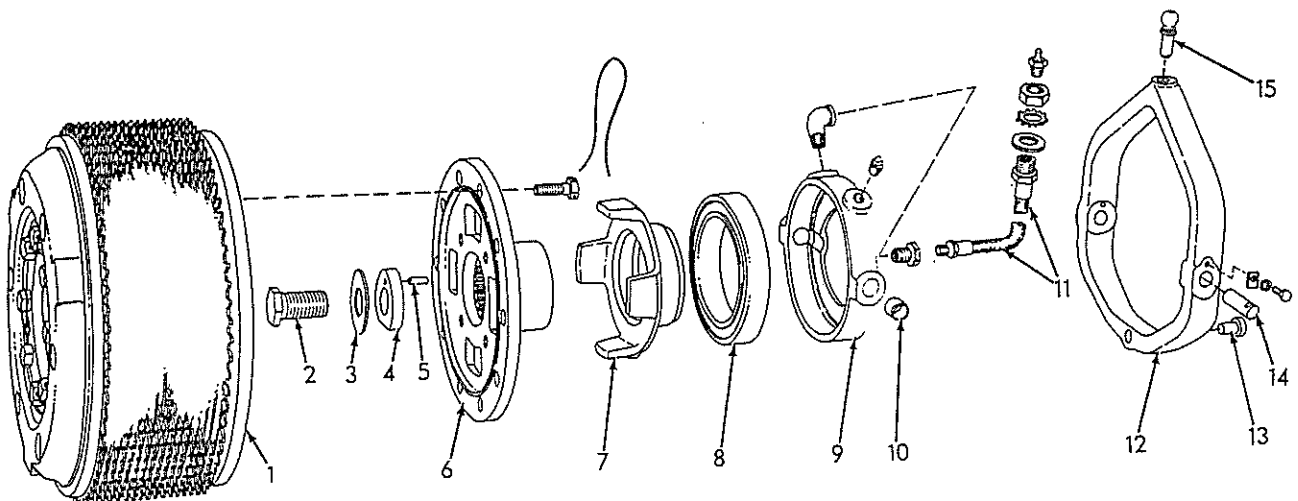
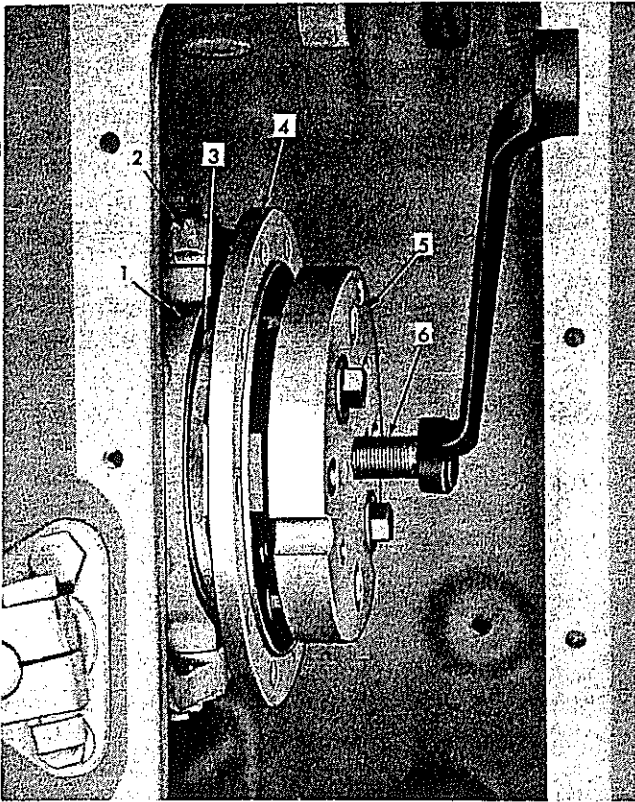

Fig. 17 -- Clutch Throwout Parts (HD11 Shown, HD6 Similar)
Fig. 18 -- Pulling Steering Clutch Driving Hub (HD6 Shown, HD11 Similar) (T-17878)
2. Refer to Fig. 17 and disconnect upper end of throwout bearing lubricating hose. Loosen driving hub retaining capscrew and turn it out approximately  $1/4$ ". Use tools similar to those shown in Fig. 18 and pull hub from bevel gear shaft. Remove tools, hub retaining capscrew, capscrew lock and hub retaining washer.
4. Remove driving hub from sleeve, lubricating hose and yoke from bearing cage (refer to Fig. 17).
2. Assemble lubricating hose and yoke to cage assembly (refer to Fig. 17); be certain yoke trunnion pins are locked securely in position.
4. Lubricate inside diameter of throwout sleeve with graphite base lubricant and position steering clutch driving hub in sleeve (refer to Fig. 17).